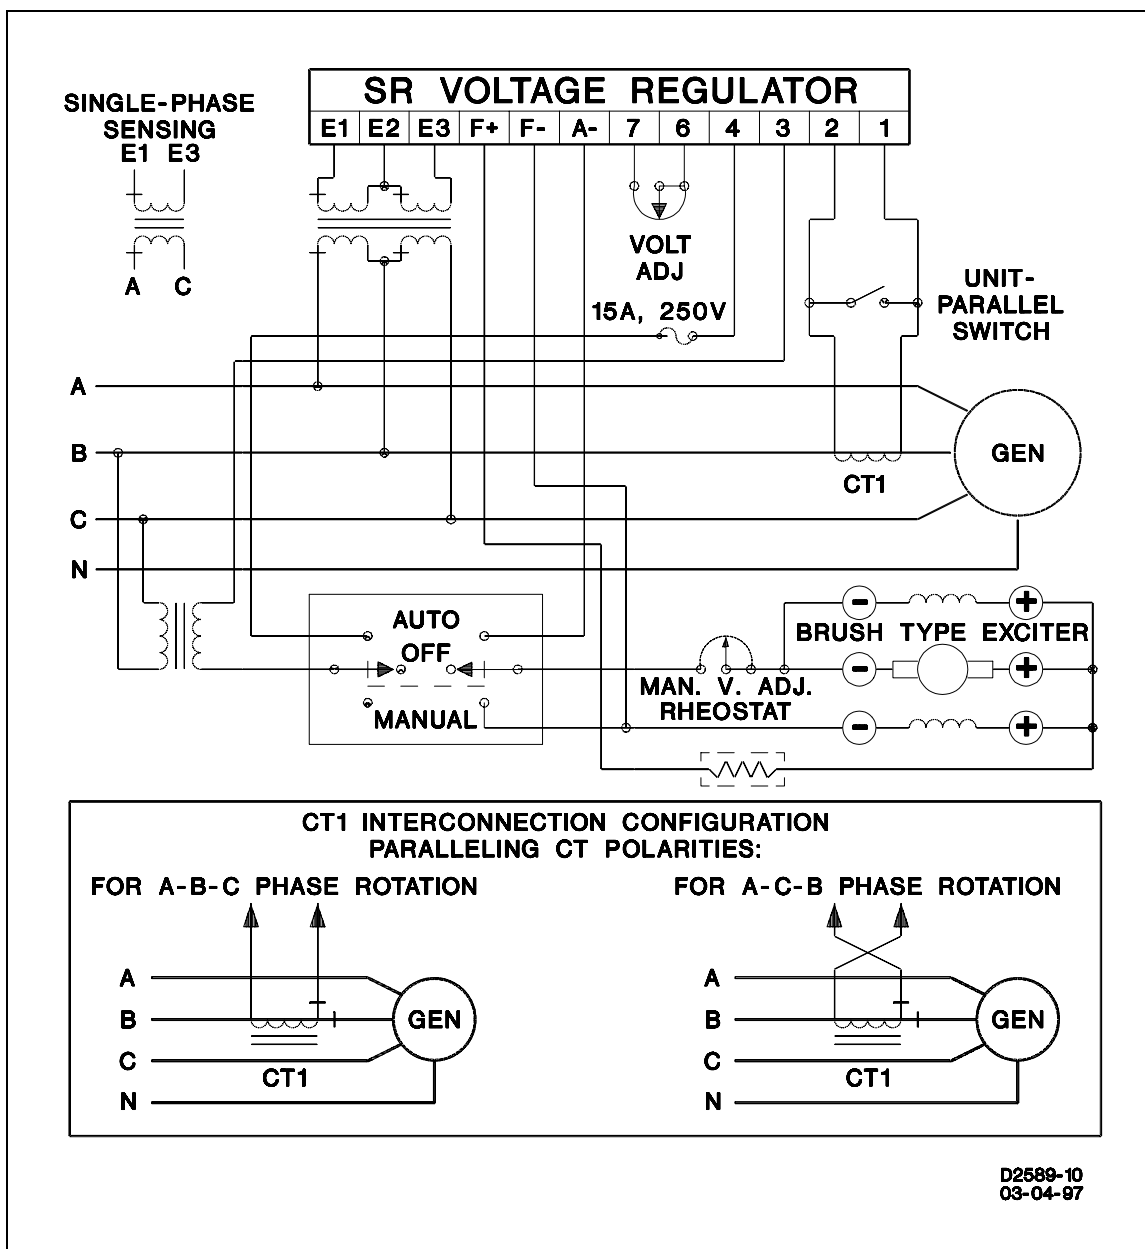

Figure 3-4. Brush Type Rotary Exciter Interconnection.
(1) Reactive differential compensation allows two or more paralleled generators to share inductive reactive loads with no decrease or droop in the generator system output voltage. This is accomplished by the action and circuitry described previously for reactive droop compensation, and the addition of cross connecting leads between the parallel CT secondaries as shown in Figure 3-4. By connecting the finish of one parallel CT to the start of another, a closed series loop is formed, which interconnects the CT's of all generators to be paralleled. The signals from the interconnected CT's cancel each other when the line currents are proportional and in phase. No system voltage decrease occurs. These regulators provide the necessary circuit isolation so that parallel reactive differential compensation can be used. The reactive differential circuit can only be used when all the generators connected in parallel have identical paralleling circuits included in the loop.
(2) Reactive differential compensation cannot be used when paralleled with the utility or other infinite (utility) bus. When reactive differential compensation is to be used on an isolated bus that may parallel with the utility bus, an auxiliary contact on the breaker used to connect the isolated bus to the utility bus must be used to open the reactive differential interconnecting loop any time the isolated system is connected to the utility. Contact the factory for additional information.
a. General. The regulator must be connected to the generator system as instructed in this section and as shown in the basic interconnection diagrams (Figures 3-4 and 3-5). Number 16 gauge wire (or larger) should be used for all connections to the regulator.
(1) When making connections on brush type rotary exciter applications, it is very important to observe the polarities of the exciter field, exciter output and the generator field as shown in Figure 3-4. If these polarities are not known, the system should be operated on manual voltage control and the polarities accurately determined, before connecting the voltage regulator into the system. The voltage regulator could be damaged if interconnection is attempted before this data is known.
(2) When manual voltage control is desired on brush type exciter applications, a **MANUAL-OFF-AUTO** switch and a field rheostat are used. (See Figure 3-4.) When this feature is not desired, the output of the exciter can be connected directly to the regulator (terminal A-), to allow self-excitation during short-circuit or overloads.
(3) When large motor starting or short circuit sustaining capability is not required it is not necessary to use A- terminal.
a. In addition to the regulator provisions, a 25 VA current transformer (CT) is required (See Figure 3-4 and 3-5). This CT is connected in a generator line and should deliver from 3 to 5 A secondary current at rated load.
c. Figures 3-4 and 3-5 show the correct CT polarity for A-B-C phase rotation sequence. If the phase rotation sequence is A-C-B, the CT's secondary leads must be interchanged.
a. For reactive droop compensation, connect the CT to its respective regulator as shown on Figures 3-4 and 3-5.
Before initial operation is attempted, verify that the regulator is connected for the proper application as shown in either Figure 3-4 or 3-5.
- (1) It is recommended, before proceeding, that the operation of the components in (and external to) the regulator which facilitates parallel operation be reviewed (paragraph 2-3).
- (2) It is essential that the paralleling signal at terminals 1 and 2 of the regulator, have the proper phase relationship with that of the sensing voltages at terminals E1, (E2 must be connected on 3 phase models), and E3. Verify the connections to these terminals are made exactly as shown in Figures 3-4 and 3-5. If reactive differential (cross-current) compensation is desired, the paralleling CT's must be connected as described in paragraph 2-4b. A CT must be selected which will furnish 3 to 5 amperes at rated generator load current.
- (3) Prior to operation, the slide adjustment of resistor R25 (on all regulators) should be set to identical positions, near the end of R25 (farthest from the terminal strip). This adjustment will provide maximum reactive droop compensation (droop) signal.